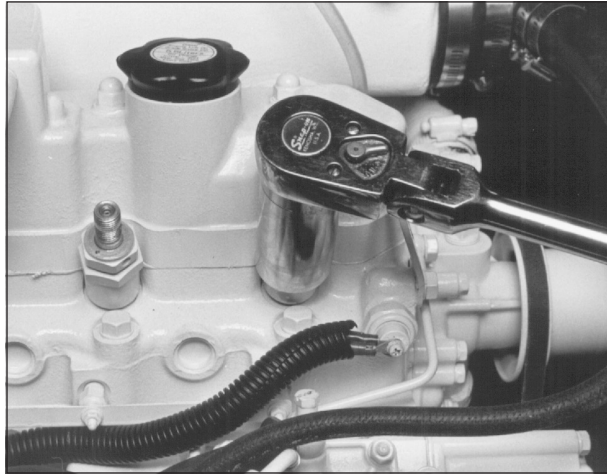

Figure 12: Unscrew injector.
- e. Unscrew and remove the injectors (Figure 12).